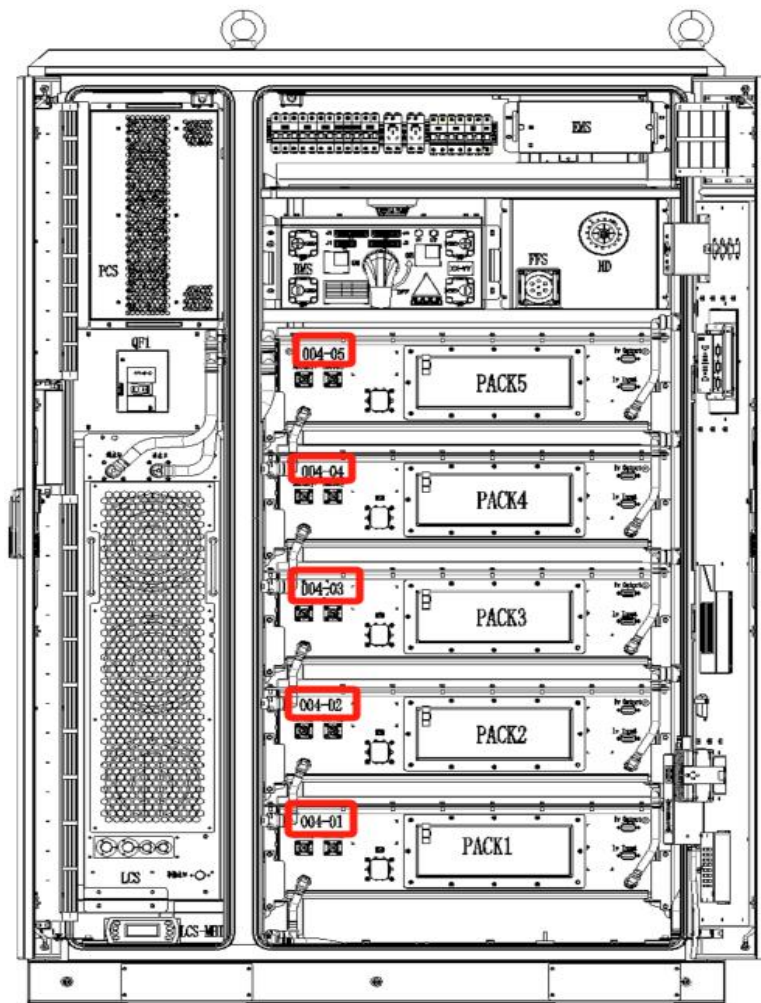

Figure 7-1 Y52 Number-Position Correspondence
- 2) Ensure the right numbering sequence of the battery boxes during installation. For standard battery racks, the number-position correspondence is shown in Figure 7-1: